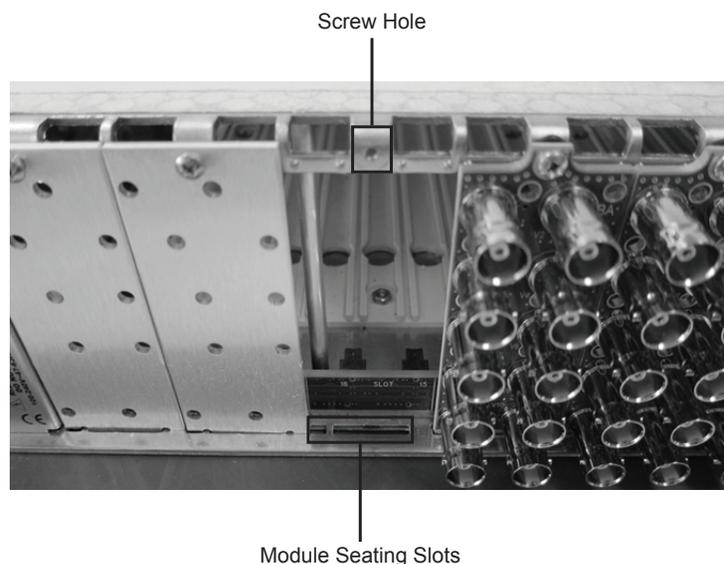

Figure 2.7 Rear Module Installation — OG3-FR Frame
4. Seat the bottom of the rear module in the seating slots at the base of the frame back plane. (**Figure 2.7**). Refer to the section “**Rear Modules for the OG3-FR Series Frames**” on page 3-5 for details.
5. Align the top screw of the rear module with the screw hole on the top edge of the frame back plane. (**Figure 2.7**)